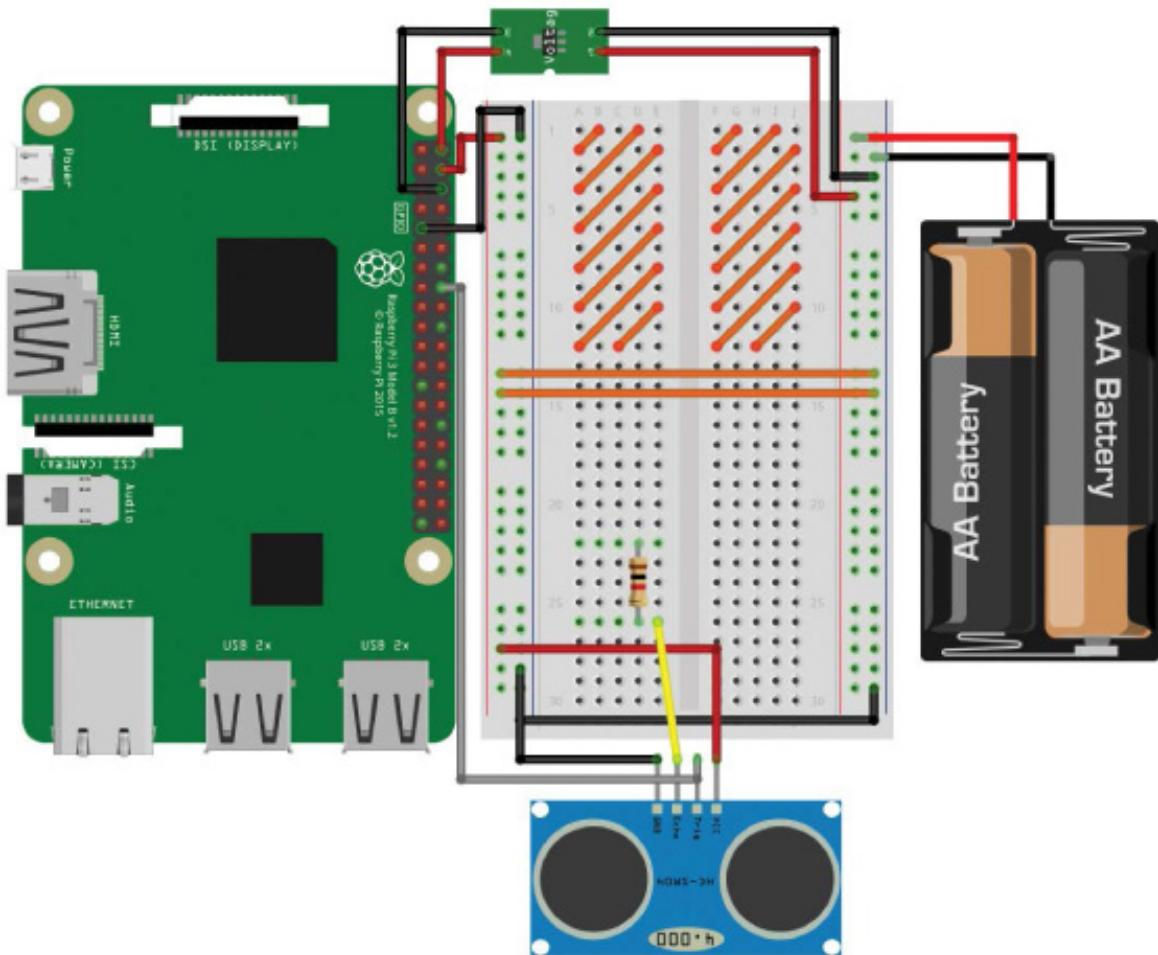

FIGURE 5-6 The Trig pin of the HC-SR04 connected to BCM 23 and the Echo pin connected to a $1\text{ k}\Omega$ resistor
4. Then attach a jumper wire from the Echo pin of your sensor to a new row on your breadboard. Connect a $1\text{ k}\Omega$ resistor by putting one leg of the resistor into the same row as the Echo pin and the other leg of the resistor into a different, unused row of your breadboard. At this point your wiring should look like Figure 5-6.